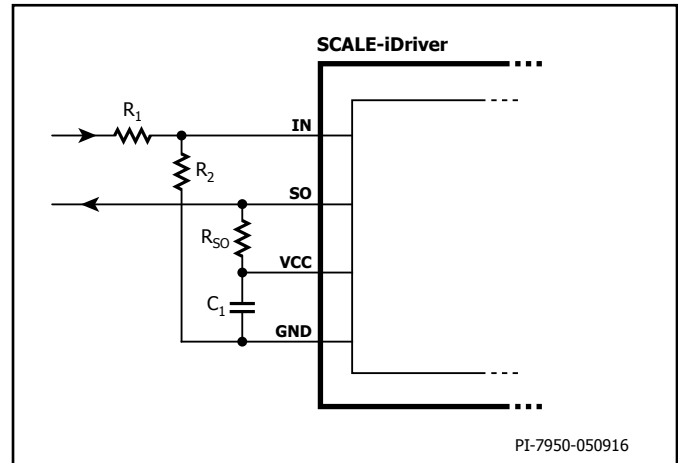
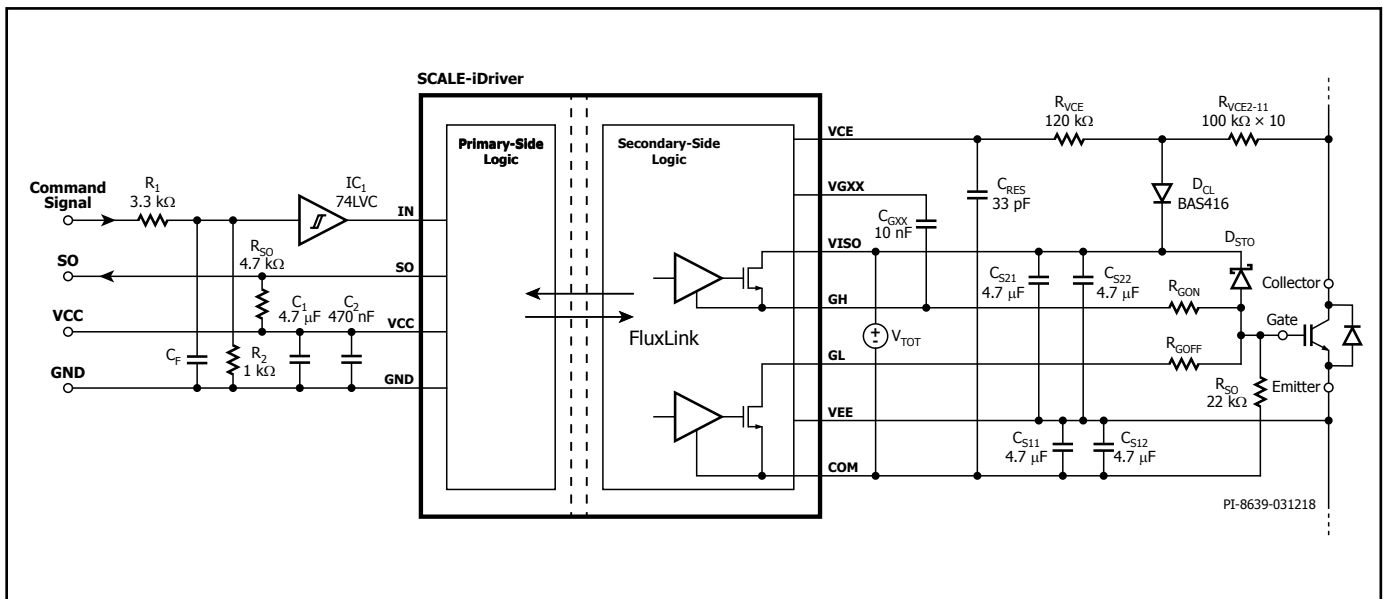

Figure 5. Increased Threshold Voltages  $V_{IN+LT}$  and  $V_{IN+HT}$  For  $R_1 = 3.3 \text{ k}\Omega$  and  $R_2 = 1 \text{ k}\Omega$  the IN Logic Level is 15 V.
Figure 13. SCALE-iDriver Application Example Using a Resistor Network for Desaturation Detection.
The input (IN) and output (SO) logic is designed to work directly with micro-controllers using 5 V CMOS logic. If the physical distance between the controller and the SCALE-iDriver is large or if a different logic level is required the resistive divider in Figure 5, or Schmitt-trigger ICs (Figures 13 and 14) can be used. Both solutions adjust the logic level as necessary and will also improve the driver's noise immunity.
and power-down. Any supply voltage related to VCC, VISO, VEE and VGXX pins should be stabilized using ceramic capacitors  $C_1$ ,  $C_{S1X}$ ,  $C_{S2X}$ ,  $C_{GXX}$  respectively as shown in Figures 13 and 14. After supply voltages reach their nominal values, the driver will begin to function after a time delay  $t_{START}$ .
Figures 13 and 14 show the schematic and typical components used for a SCALE-iDriver design. In both cases the primary-side supply voltage ( $V_{VCC}$ ) is connected between VCC and GND pins and supported through a supply bypass ceramic capacitor  $C_1$  (4.7  $\mu$ F typically). If the command signal voltage level is higher than the rated IN pin voltage (in this case 15 V) a resistive voltage divider should be used. Additional capacitor  $C_f$  and Schmitt trigger IC1 can be used to provide input signal filtering. The SO output has 5 V logic and the  $R_{SO}$  is selected so that it does not exceed absolute maximum rated  $I_{SO}$  current.
Figure 13 shows how switch desaturation can be measured using resistors  $R_{VCE2} - R_{VCE11}$ . In this example all the resistors have a value of 100 kΩ using 1206 package. The total resistance is 1 MΩ. The resistors should be chosen to limit current to between 0.6 mA to 0.8 mA at maximum DC-link voltage. The sum of  $R_{VCE2} - R_{VCE11}$  should be approximately 1 MΩ for 1200 V semiconductors and 500 kΩ for 600 V semiconductors. In each case the resistor string must provide sufficient creepage and clearance distances between collector of the semiconductor and SCALE-iDriver. The low leakage diode  $D_{CL}$  keeps the short-circuit duration constant over a wide DC-link voltage range.
Table 2. PCB Layout and Component Guidelines Referring to Figure 13.